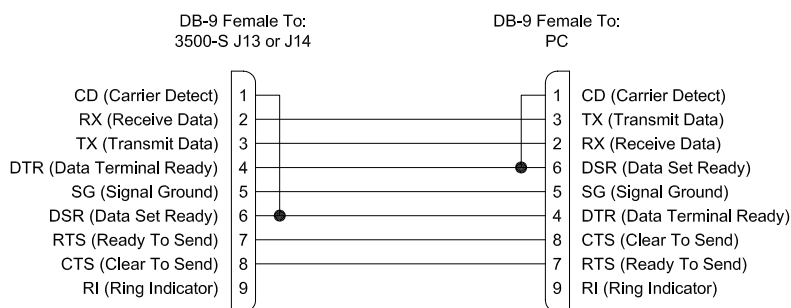

Figure 4. 3500-S RS-232 Null Modem Cable
- COM 1 is the primary RS-232 CPU link and is connected to the PC running Win3500 Control System software with a null modem cable (Part No. 81-9028-0393-0) constructed as shown in Figure 4. COM 1 may only be used with the P1E protocol at 9600 baud.